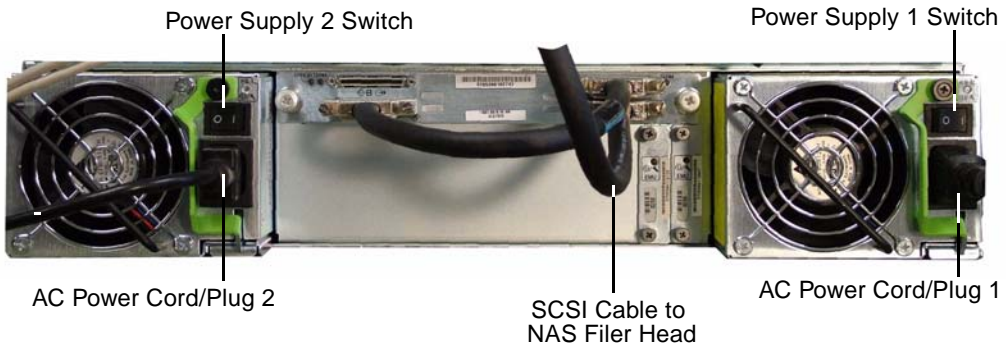

FIGURE 2-14 Expansion Unit Back Panel
2. **Connect both AC power cables to the back of each expansion unit (refer to "Connecting Each Expansion Unit Chassis to an AC Power Outlet" on page 21 and see FIGURE 2-14).**